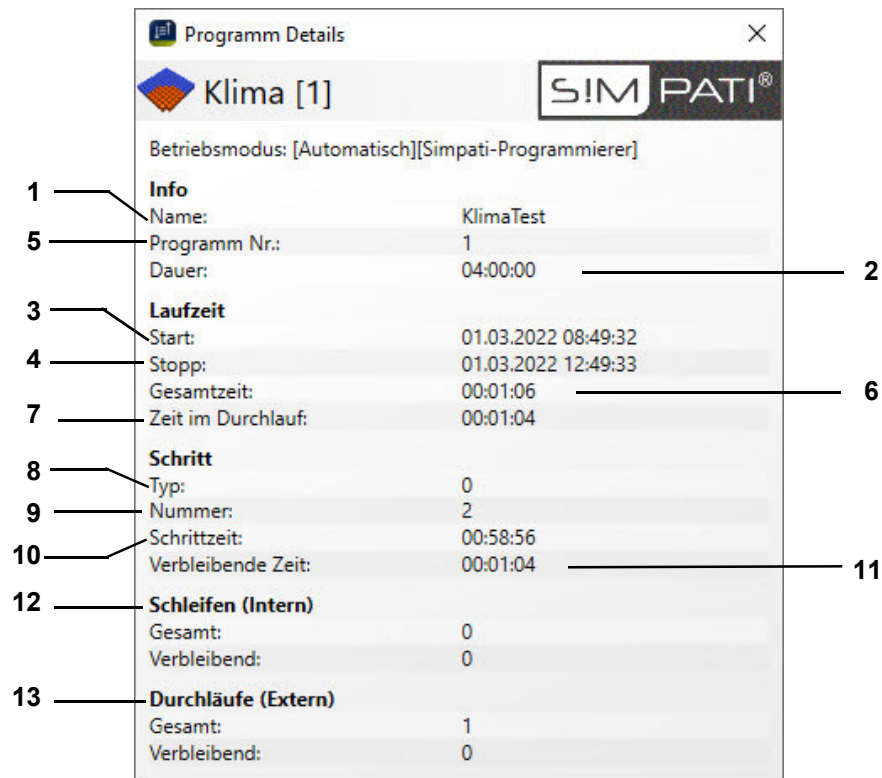

Fig. 10-4 Information window for automatic/program mode
- 11 In automatic/program mode you can access a menu window containing information about the test program → Fig. 10-4 »Information window for automatic/program mode« (page 89).